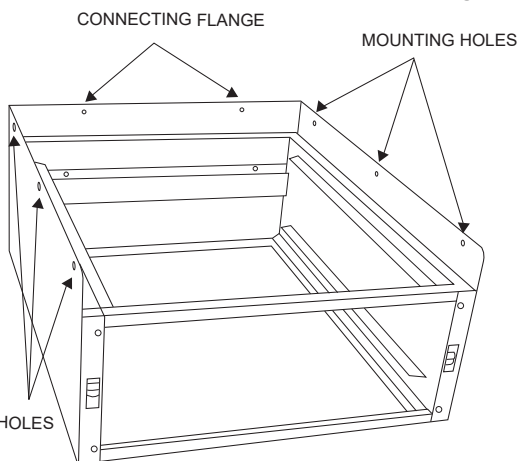

Fig. 5 – Mounting Holes and Mounting Flange
6. Mounting holes are provided for simple connection to unit cabinet. See Fig. 5. The clearance slots/holes are sized for #10 sheet metal screws or pop rivets. Reinstall the four screws removed in item 4 above, then shoot screws into remaining four clearance slots/holes of FNCCAB. If the adjoining duct work is flanged, install the screws so that the screw heads are inside the cabinet. This will prevent damage to the filter during removal and installation.